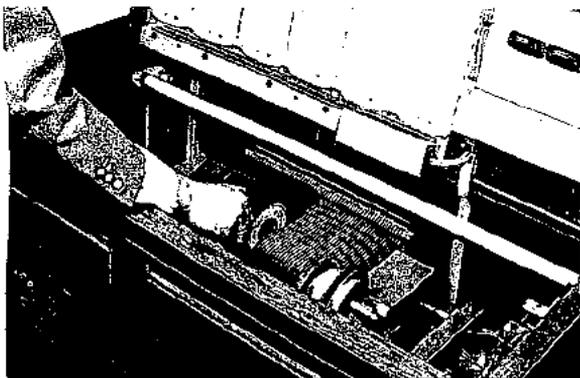

Fig. 3
13. Insert records into record magazine (figure 3) in the order of the title strips, the upper lettering of the magazine marking to the left. Move carriage by pushing it by Hand to any desired position.